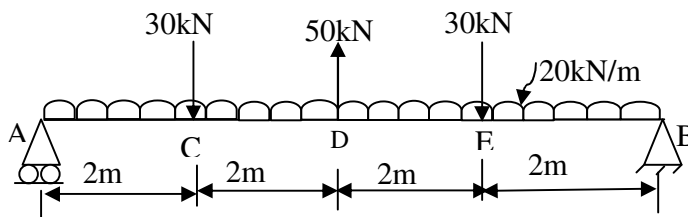

Fig.6(Q:6(a))
- Q. 6** (a) Draw Shear force and bending moment diagrams showing all necessary calculations for the beam loaded as show in fig.6. **08**